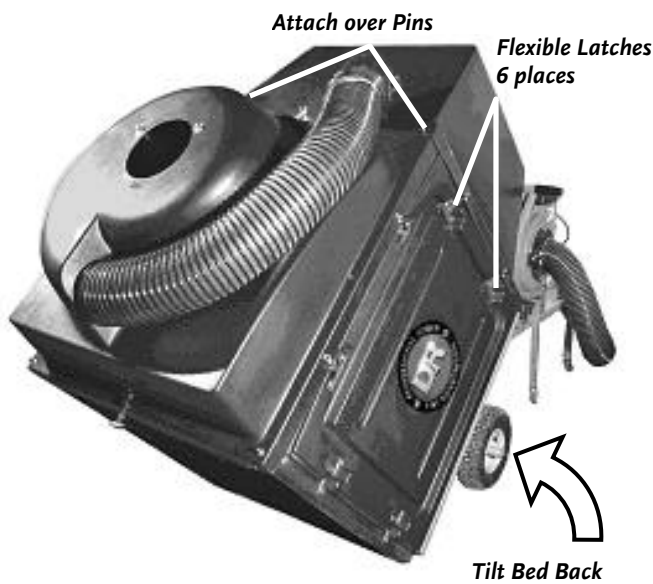

Figure 12
5. Attach the Front Enclosure Panel on the protruding Support Pins and fasten the Sides, Top, and Bottom using the six (6) Flexible Latches (**Figure 12**). The mounting holes are located on top of the Panels.
Tip: For ease of attaching the Front Box Cover, pull the Dump Lever and tilt the Body back. Set the Front Box Cover over the protruding Pins, one side at a time, making certain that the six (6) Flexible Latches are on the outside of the Panels (**Figure 12**).